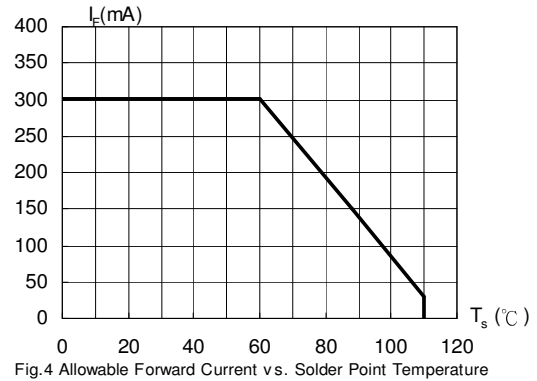

Fig.4 Allowable Forward Current vs. Solder Point Temperature
**Note:** [1] Design of heat dissipation should be considered. For the allowable operating current at different operating temperature, please refer to fig 4. page 4.